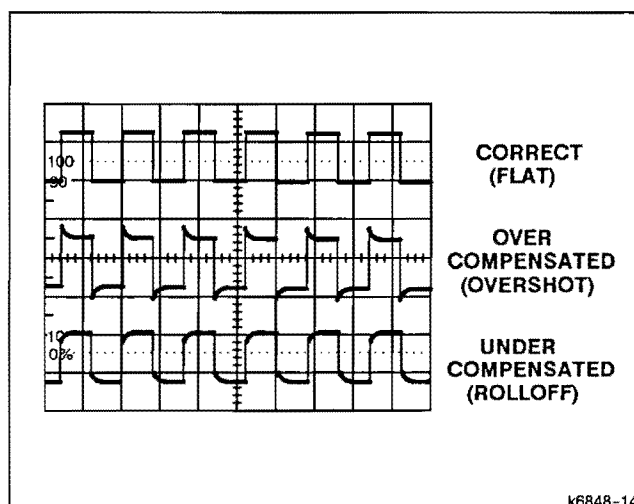
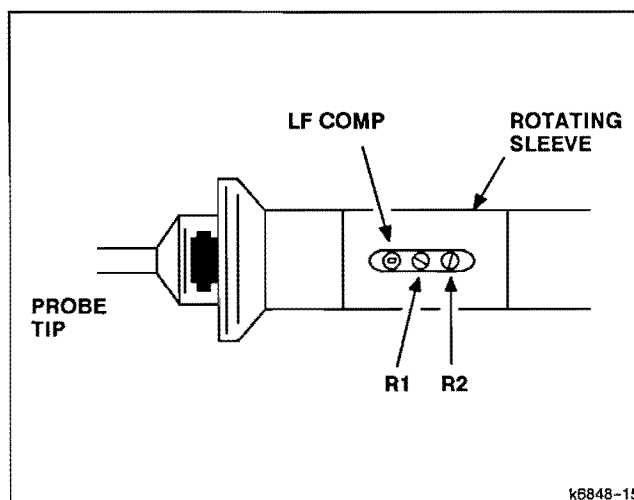

Figure 2-11. Probe compensation.
Figure 2-12. Probe compensation locations.
6. Check the waveform display for overshoot and rounding (see Figure 2-11). If the probe needs to be compensated, use a small-bladed screwdriver or alignment tool to adjust for a square front corner on the waveform. (See Figure 2-12 for the location of the compensation adjustment.)